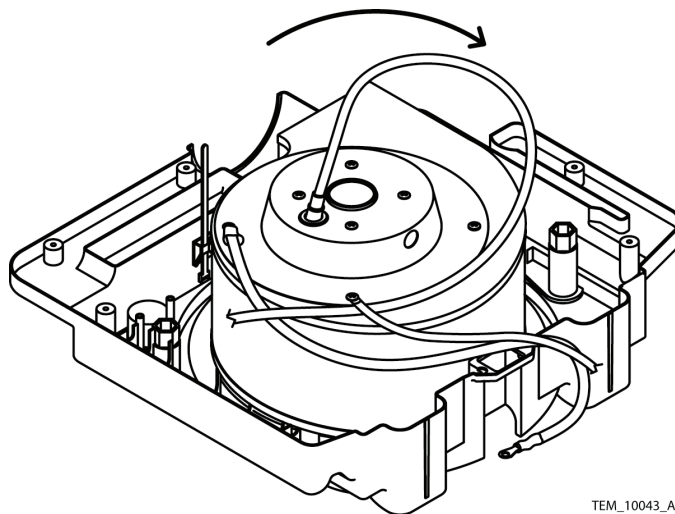
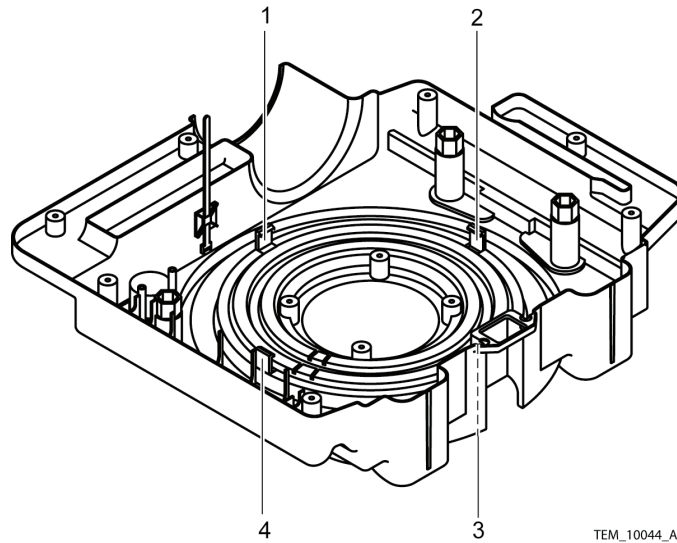

Figure 72. Blower Motor Removal
Figure 73. Blower Assembly Clips
26. Rotate the blower motor assembly clockwise to disengage two of the four clips. See Figure 72 and Figure 73.